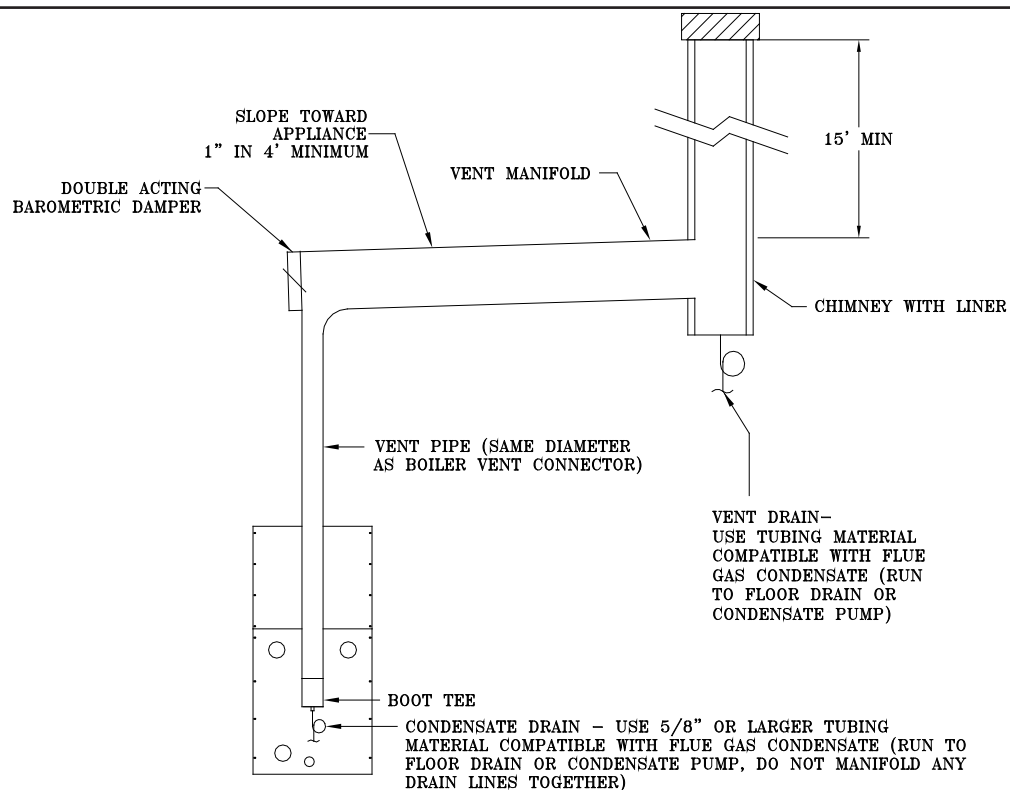

Figure 5: Typical Negative Pressure (Conventional) Venting
- a. Refer to Figure 5 for an example of a typical conventional venting arrangement.